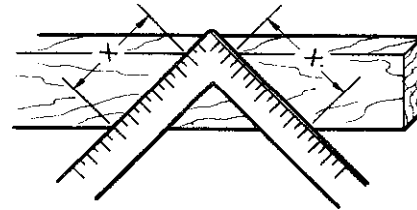

Fig. 4-23 Laying out a 45-degree angle
2. To lay out a 45-degree angle for making a right-angle miter, place the steel square on the face of the board so that an equal (X) number of graduations on the tongue and on the body fall on the board as shown in figure 4-23. Mark along the outer edges of the square. Mark along the inner edges if a 90-degree included angle is needed.